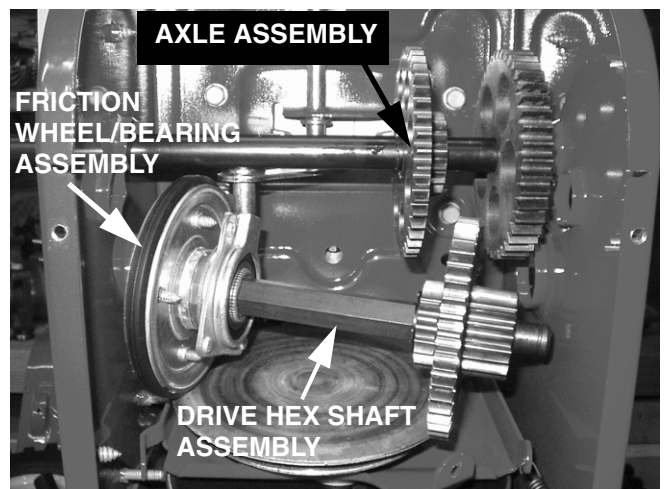

FIGURE 9
16. Rotate the right side of the drive hex shaft assembly out from between the axle gears and remove from the frame. Discard the complete hex drive shaft assembly. See Figure 9.